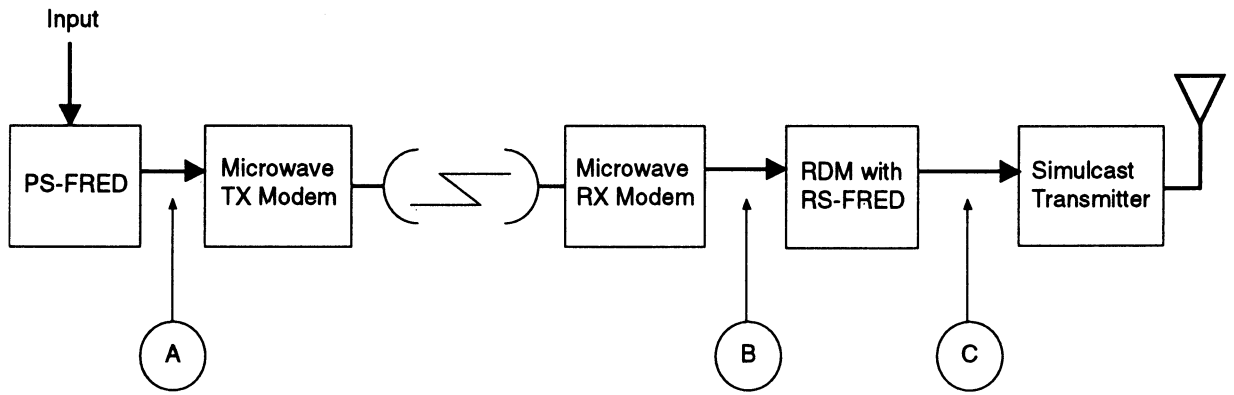
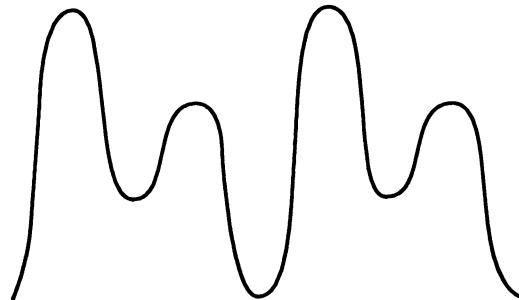

Figure 20. Typical Simulcast Transmit Path
Figure 25. Non-inverting Receiver: PS-FRED to RDM Inversion
The typical transmit path for a four-level simulcast system is shown in Figure 20. Audio originates at the PS-FRED module and connects (at point A) to the TX modem. The audio is routed to each RX modem at the remote sites and passed (at point B) to the RDM (with a RS-FRED daughter board). Finally, the RDM connects (at point C) to the simulcast transmitter. Existing in this path, are three opportunities for inverted audio.
- If it looks like Figure 25, there has been an inversion between the PS-FRED module and the RDM. Check the connections at points A and B (in Figure 20) for crossed wires and repeat steps 1 through 7.
module and the RDM as well as between the RDM and the simulcast transmitter. Check the connections at points A, B, and C (in Figure 20) for crossed wires and repeat steps 1 through 7.
- If it looks like Figure 30, there has been an inversion between the PS-FRED module and the RDM as well as between the RDM and the simulcast transmitter. Check the connections at points A, B, and C (in Figure 20) for crossed wires and repeat steps 1 through 7.